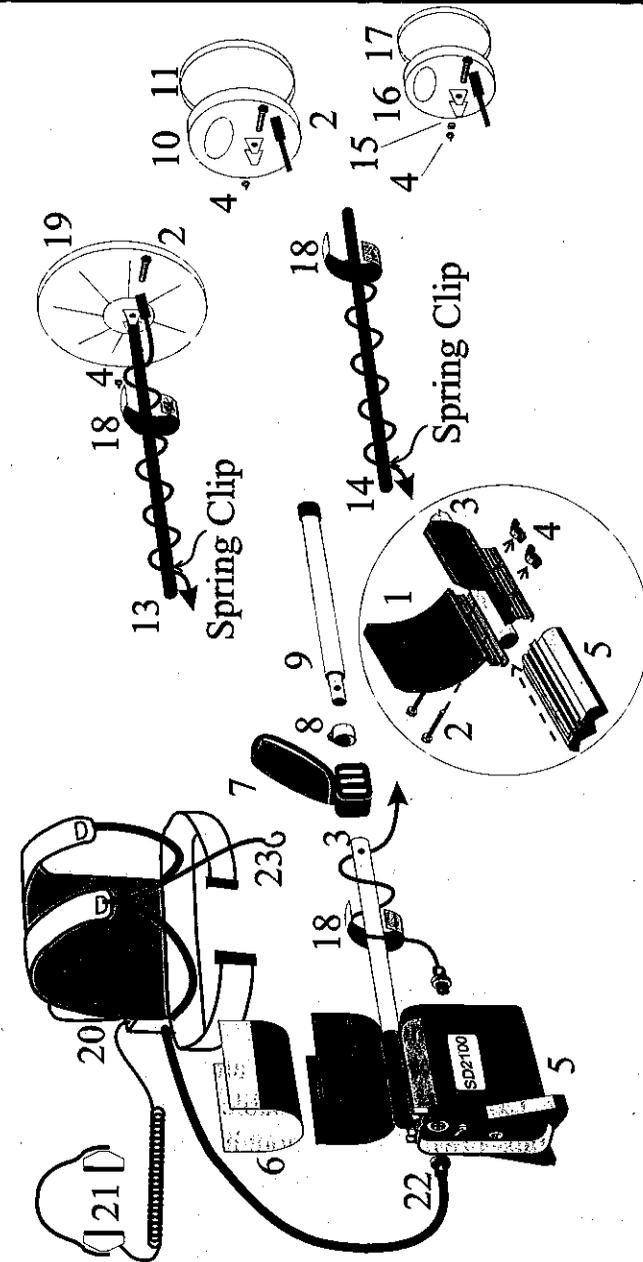

Figure 1
To assemble your **SD2100**: (Please refer to Figure 1.)
- a) Place the two Armrest halves (1) on either side of the Upper Shaft (3), ensure the bolt holes line up.
- b) Slide the two Nylon Bolts (2) through the holes, screw the Nylon Wing Nuts (4) on to the bolts by a couple of turns.
- c) Slide the "T" section on the top of the Control Box (5) in to the Armrest with the detector stand at the rear. Tighten the Nylon Wing Nuts by hand. See insert in Figure 1.
- d) Push the Armrest Cover (6) over the Armrest (1).
- e) Slide the Handle (7) on the other end of the Upper Shaft (3) and set to a comfortable position. Tighten the two screws with a small flat tipped screwdriver to hold the handle in place.
- f) Slide the Shoulder Balance Strap Shaft Clip (8) onto the Intermediate Shaft (9).
- g) Slide the Intermediate Shaft (9) into the end of the Upper Shaft (3) and snap it into place.
- h) Ensure that the 8" (16) and the 11" (10) Coils have skid plates (11&17) fitted. The 18" Coil (19) is made from wear resistant Kevlar®. However with constant abrasion it will wear through. Extra protection can be gained by covering the perimeter of the coil with a silk tape such as Leukosilk® which is available from chemists. The use of some other tapes, such as insulation tape, may result in loss of performance.